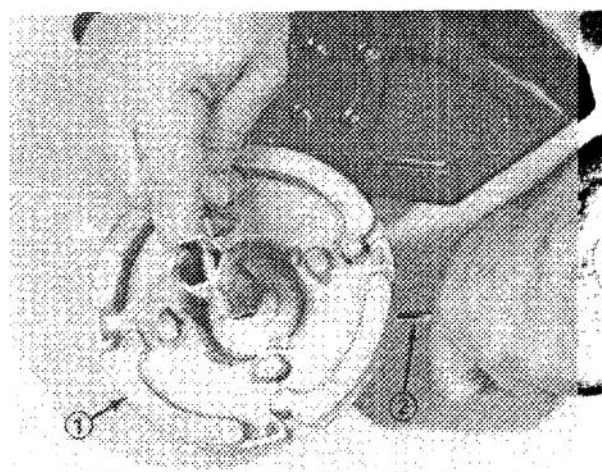

Figure 19
2. Install cutter head, plate and nut onto shaft (Fig. 19). Insert a locking tool into hole in blade fixing plate, rotate shaft until tool can be inserted through a hole in the gear case casting (Fig. 19).
3. Keep shaft from rotating with locking tool and tighten nut with wrench (Fig. 19). (Left hand thread.)